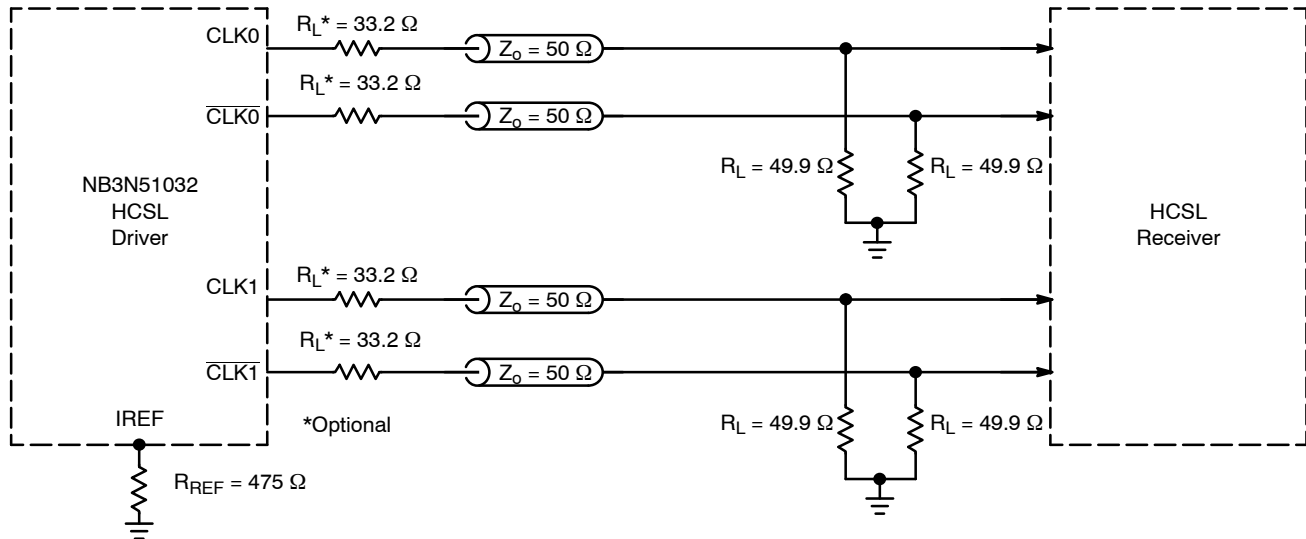
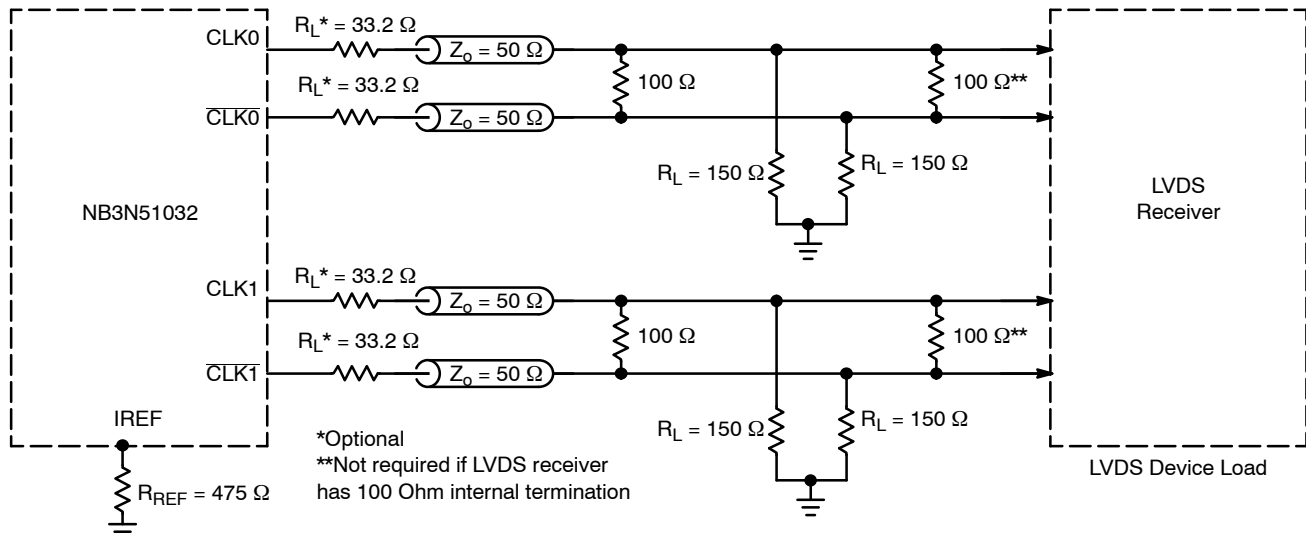

Figure 9. Typical Termination for Output Driver and Device Evaluation
Figure 10. Typical Termination for LVDS Device Load
- VDDXD and VDDODA power pins must be shorted to power supply voltage V_{DD} and GNDXD and GNDODA ground pins must be shorted to power supply ground GND. Measurement taken with outputs terminated with R_S = 33.2 Ω, R_L = 49.9 Ω, with test load capacitance of 2 pF and current biasing resistor set at 475 Ω. See Figure 9. Guaranteed by characterization.
9. VDDXD and VDDODA power pins must be shorted to power supply voltage V_{DD} and GNDXD and GNDODA ground pins must be shorted to power supply ground GND. Measurement taken from differential output on single-ended channel terminated with $R_S = 33.2 \Omega$, $R_L = 49.9 \Omega$, with test load capacitance of 2 pF and current biasing resistor set at 475 Ω . See Figure 9. Guaranteed by characterization.
The outputs can be terminated to drive HCSL receiver (see Figure 9) or LVDS receiver (see Figure 10). HCSL output interface requires $49.9\ \Omega$ termination resistors to GND for generating the output levels. LVDS output